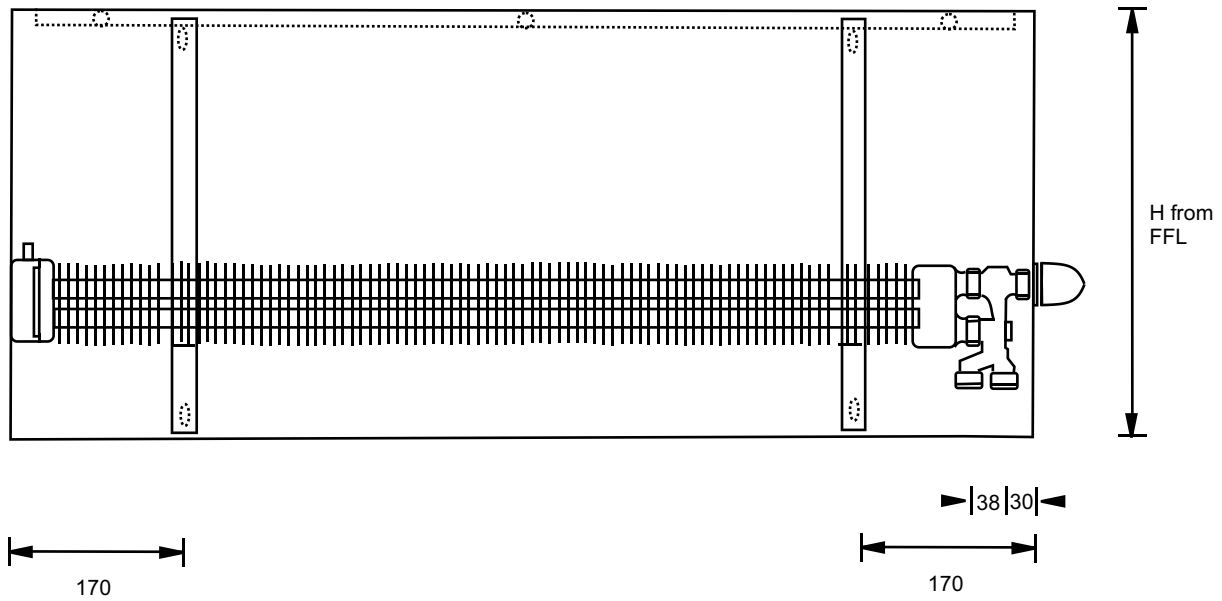

Fig 1 Centurion dimensions in mm, including pipe centres for Herz 2-pipe system valve. For height 'H' refer to data tables on pages 3 to 6
- The standard connection configuration is TBSE (Top Bottom Same End) is illustrated in fig 1, which permits the use of the Herz radiator valve with the choice of thermostatic controls shown on page 1. If one of the other connection configurations shown on page 7 is selected, Clyde can offer a suitable choice of valve. A special 'change-fix' spanner is available from Clyde for Herz valves.